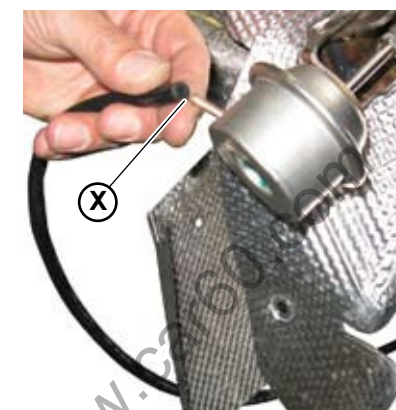

Fig.13
18. Connect the ECS pipe (**X-Fig.13**) by securing its clamp.